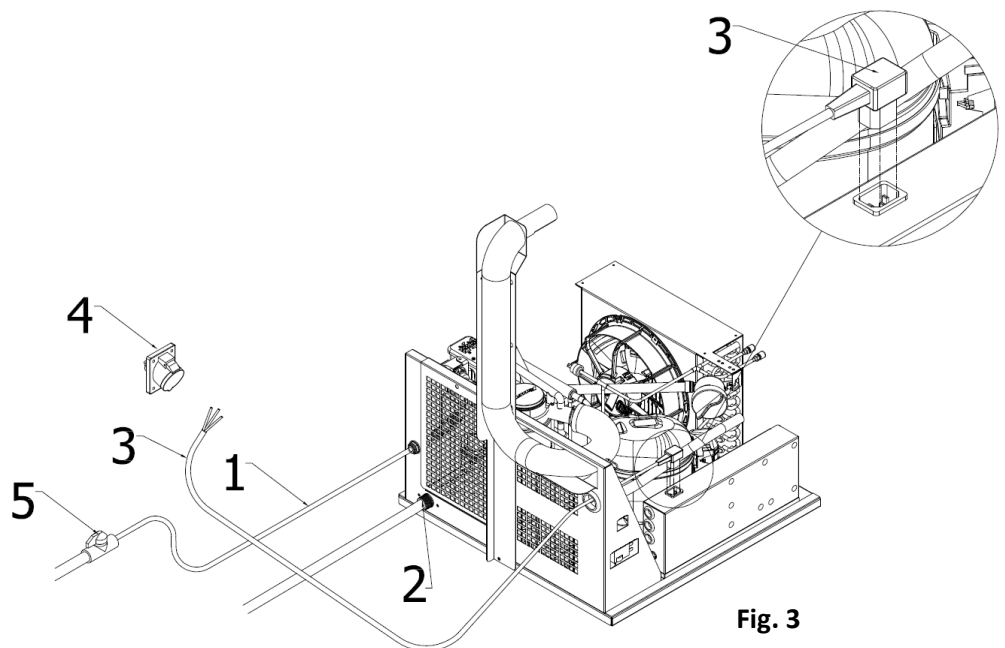

Fig. 3
- Bin portion must be removed after uncrating (**Fig. 3**)
- b. Connect water line and drain. Recommended routing (**Fig. 3**) allows easy access to water for cleaning and sanitizing procedure. Check if the drain cut-off valve is opened.